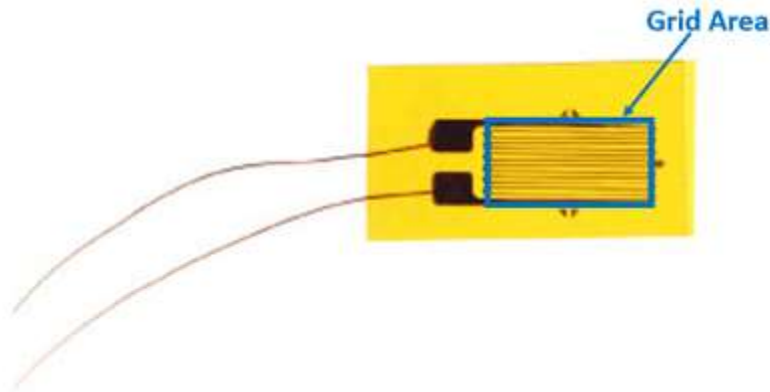

Figure 2: The area (sometimes called the “grid”) of the gauge highlighted above.
- Power Density – The power density is the gauge power divided by the area (A) of gauge (the area is the looping wires of a gauge shown in *Figure 2*). The higher the power density of a strain gauge, the worse the thermal performance.
- A = Area of gauge grid, where resistance wires are looped back and forth. See *Figure 2*.